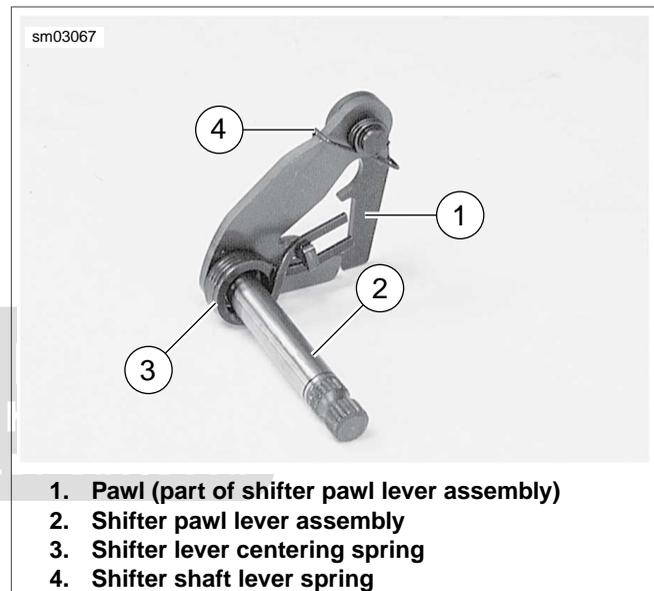

Figure 7-57. Shifter Pawl Lever Assembly
2. See Figure 7-57. Slide shifter lever centering spring (3) over shaft of shifter pawl lever assembly (2). Align opening on spring with tab on lever.
3. Place shifter shaft lever spring (4) on shifter pawl lever assembly.